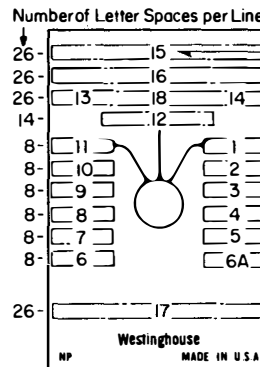

Figure 3
- NP 502A054H04 (Fixed Handle) Fig. 3
- NP 502A054H05 (Removable Key) Fig. 3